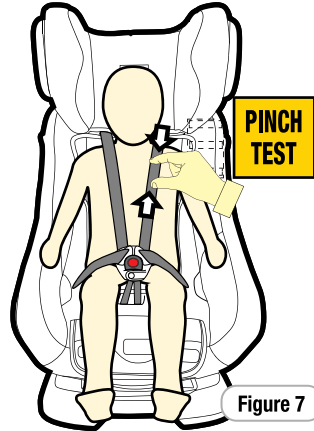

Figure 7
**Step 6:** Check the harness tightness by the **PINCH TEST**, this is achieved by pinching the harness webbing at the shoulders (refer Figure 7).